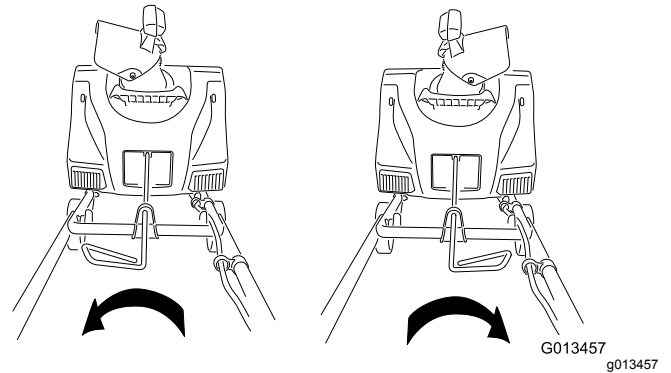

**Figure 6**
4. Ensure that the handle of the chute control rod points upward (Figure 6), and insert the rod into the keyed hole in the back of the housing.
To adjust the discharge chute, move the handle on the chute control rod in the direction that you wish to direct the snow stream (Figure 6 and Figure 7).